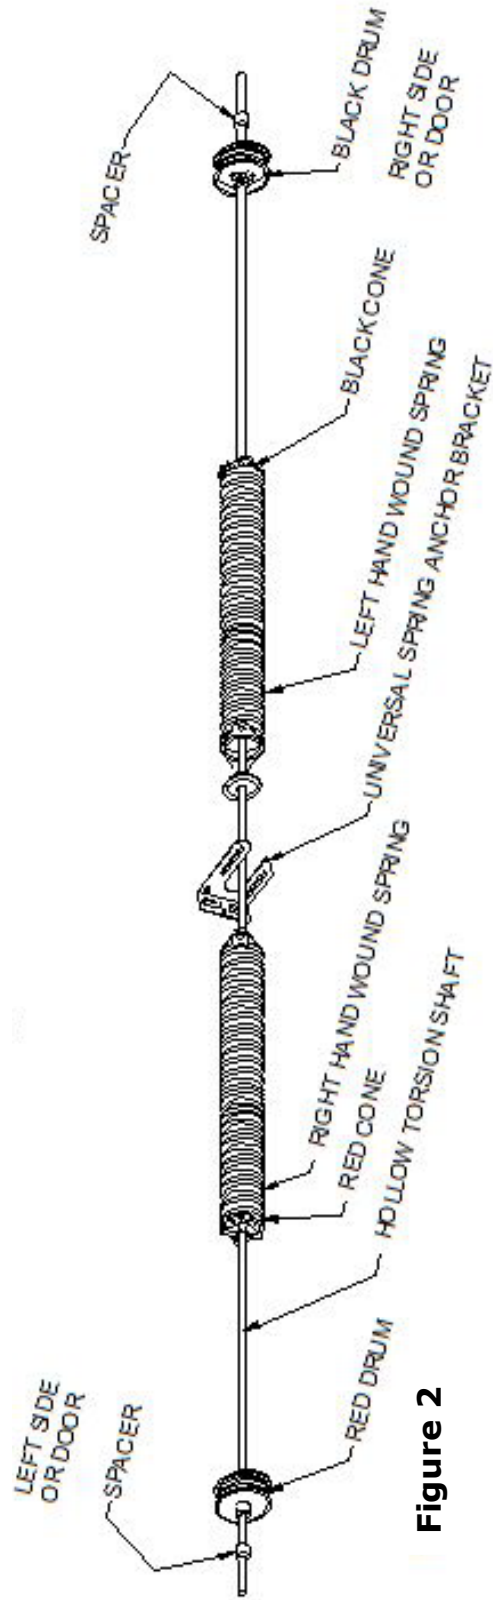

Figure 2
- Two spacers are used on the torsion shaft. See figure 2. These spacers are used to keep the drums and cable from rubbing on the horizontal track.
Assemble the torsion shaft, springs, center bearing plate, drums and spacers as shown in figure 2. Then install the torsion shaft assembly exactly as described in your standard instructions.